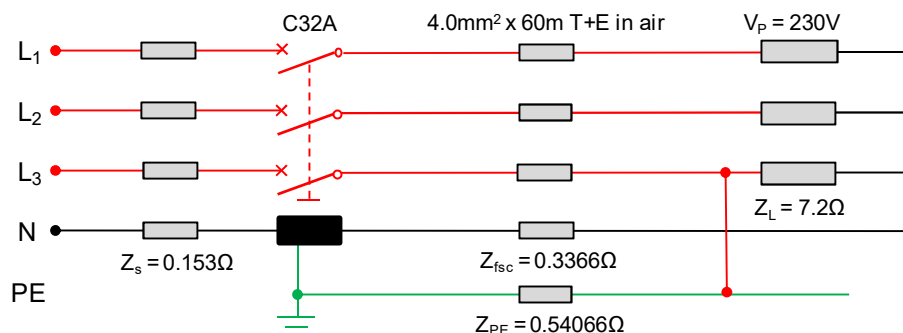

figure 16.
Figure 16 shows an earth fault. The current path flows from the active conductors to the fault, returning via the protective earthing conductors to the M.E.N. connection, then along the neutral conductors to the supply. The circuit is no longer balanced, so the impedances of the serial connected neutral and protective earth conductors must be included (earth fault loop impedance).
1. Calculate the Line current (I_L) for the circuit shown in figure 16.